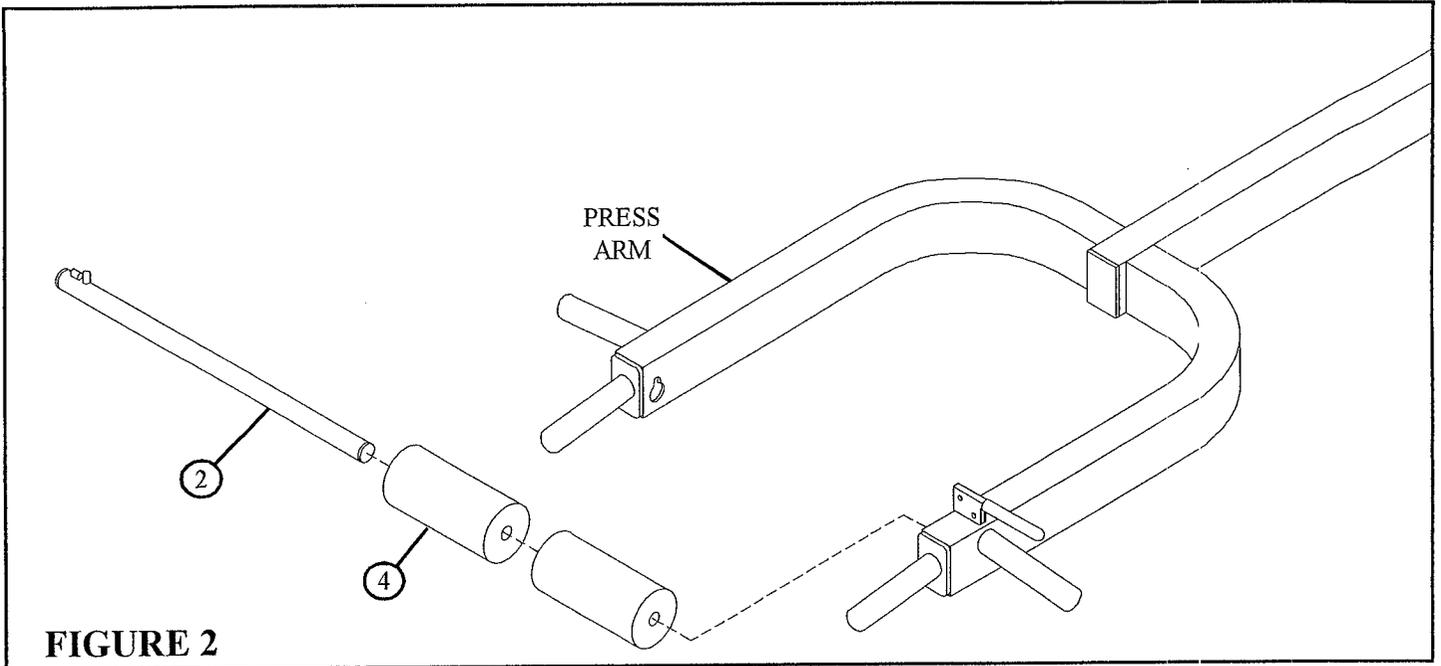

FIGURE 2
- Slide two ROLLER PADS (4) over the SQUAT BAR (2). See FIGURE 2. Space PADS out equally to support back of neck. (Optional : SQUAT BAR may be used without ROLLER PADS.)
- Insert SQUAT BAR (4) into the hole on the PRESS ARM as shown.